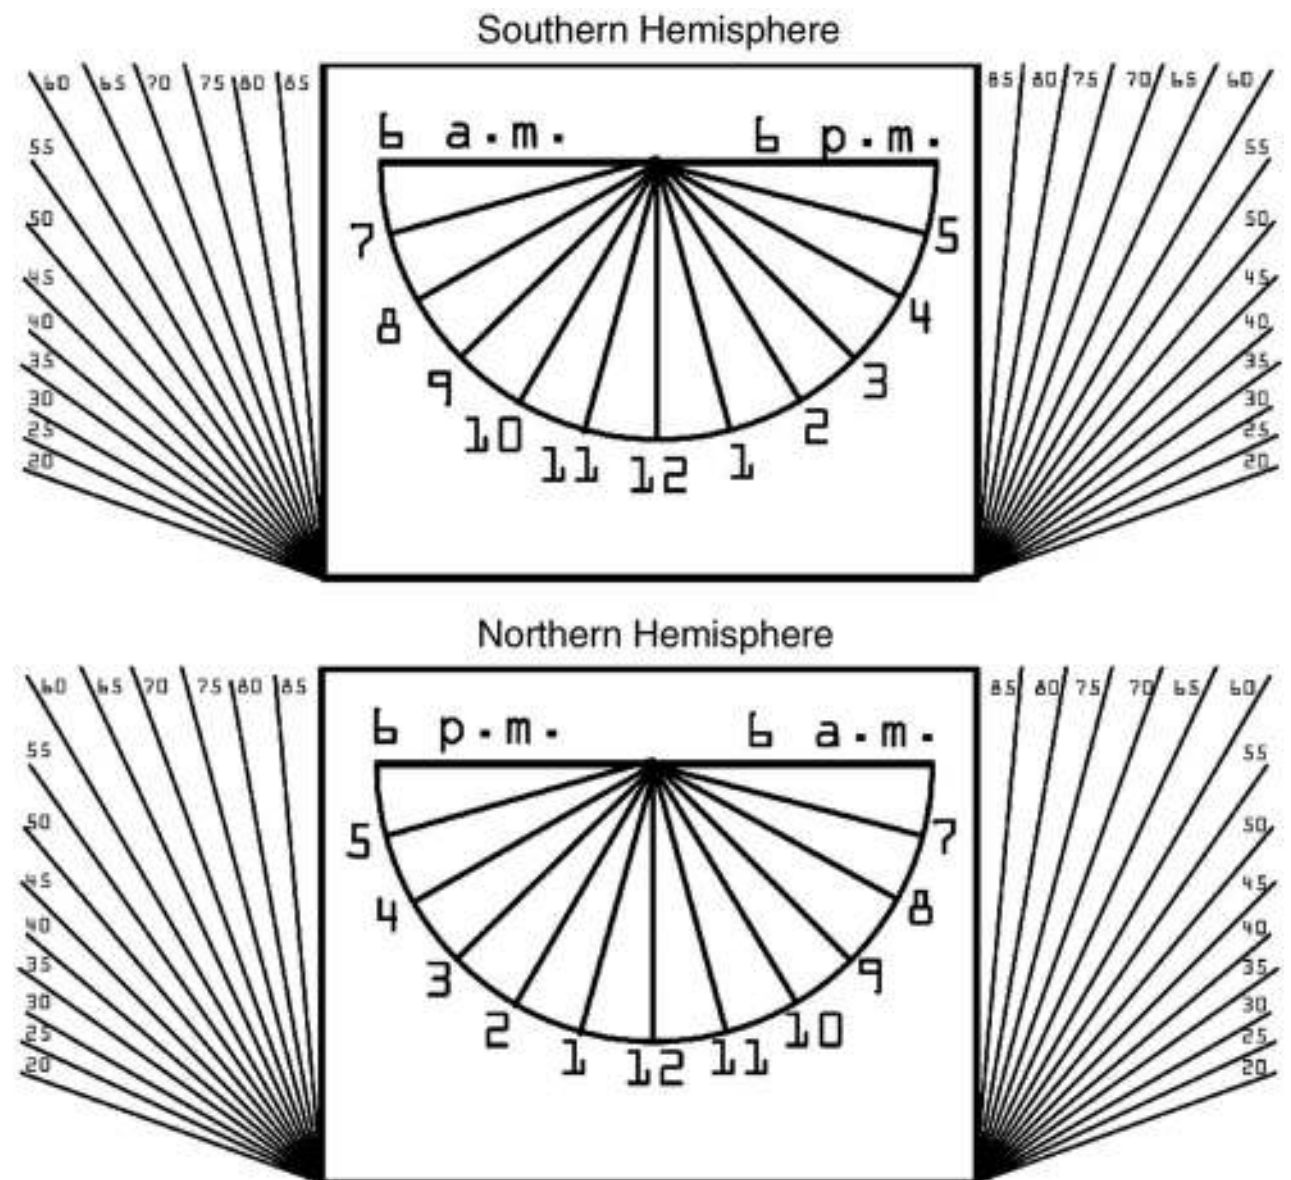

Figure 3-5 *Template for our “solar-powered clock.”*
- Photocopy of Figure 3-5
This is a dead-easy and quick sundial for you to build. Take a photocopy of Figure 3-5. If you want